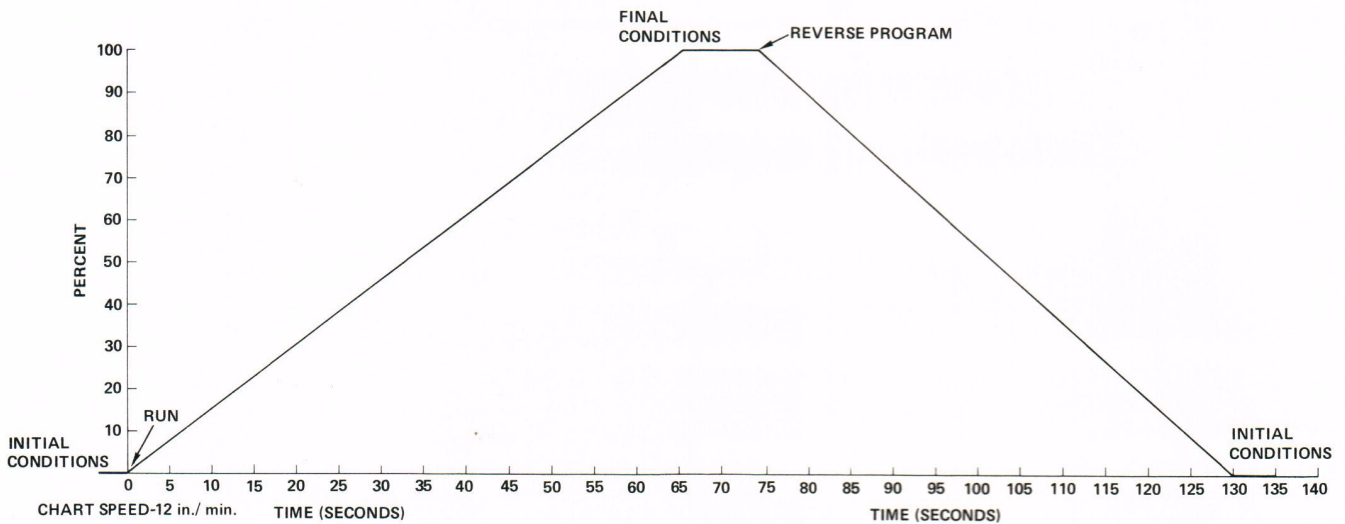

Figure 3-4. Curve '6' Profile for 0% to 100% and Reverse Flow Program from 100% to 0%
3. The program will run backward toward initial conditions retracting the curve at the same rate that it has been going forward (see Figure 3-4).